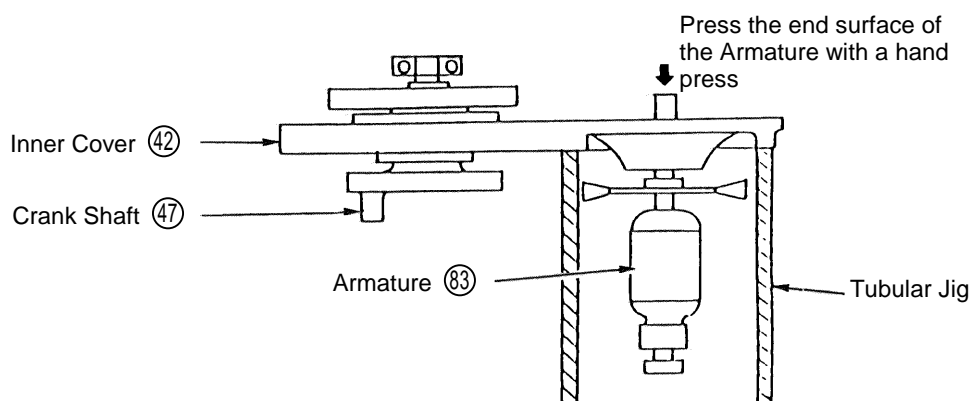

Fig. 4
(1) Disassembly of the Armature (83):
- A. Loosen the four M4 x 12 Machine Screws (55), remove the Cap Covers (56), Cap Rubbers (57) and Brush Caps (58), and take out the Carbon Brushes (59). At this time, be very careful not to lose the disassembled parts.
- B. Loosen the four M8 x 35 Hexagon Socket Hd. Bolts (24), and remove the Cylinder Case (19). Next, remove the Cover Plate (53), the Holder (62), and the Holder Seal (61). Then, after loosening the M8 x 16 Hexagon Socket Hd. Bolt (52), the Connecting Rod Ass'y (30) and the Crank Washer (51) can be disassembled. Leave the Striker (23) and Piston (29) as they are.
- C. Loosen the four M5 x 14 Hexagon Socket Hd. Bolts (67), and take off Handle (A) (101) and Handle (B) (96). Next, loosen the six M6 x 45 Hexagon Socket Hd. Bolts (69), and disassemble the Gear Cover (38) and the Counter Gear (73). Then, by inserting a minus screwdriver or similar tool into one of the air vents of the Inner Cover (42) and lifting it upwards, the Inner Cover (42), Armature (83), Crank Shaft (B) (47), and connected parts can be removed in a single body.
- D. As illustrated in Fig. 4, support the Inner Cover (42) with an appropriate tubular jig, and push down on the end surface of the Armature shaft with a hand press to separate the Armature (83) from the Inner Cover (42).